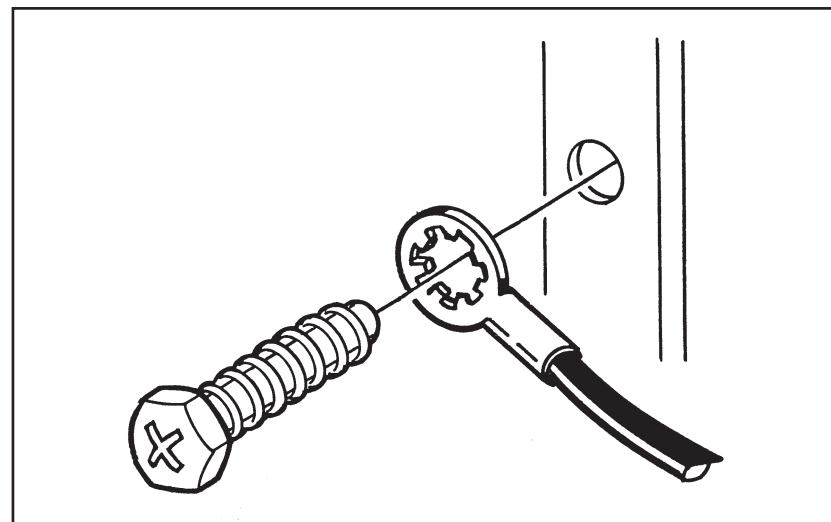

Figure 4
- Use ring terminals with incorporated, internal locking teeth at all grounding screw locations. This ensures a positive ground connection. (See Figure 4.)